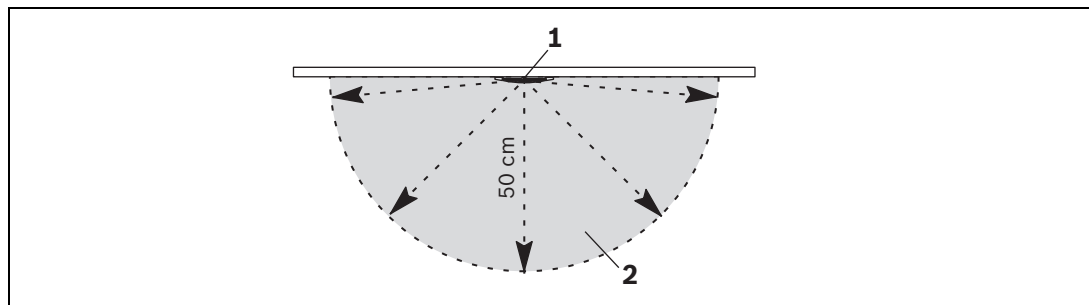

Figure 2.1 Radius
- A hemispherical space (see *Figure 2.1 (1)*) with a radius of 50 cm must remain free below the detector (see *Figure 2.1 (2)*).